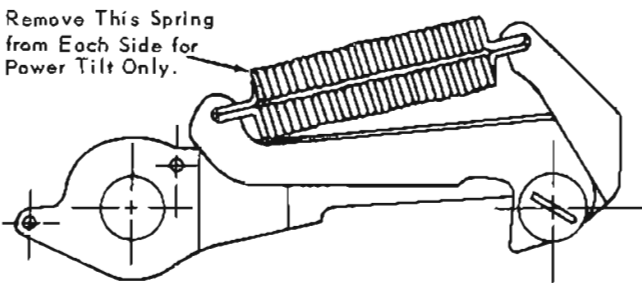

Figure 1. Reverse hook Assembly Spring
- a. Proper amount of springs on the reverse hook assembly. (Figure 1)